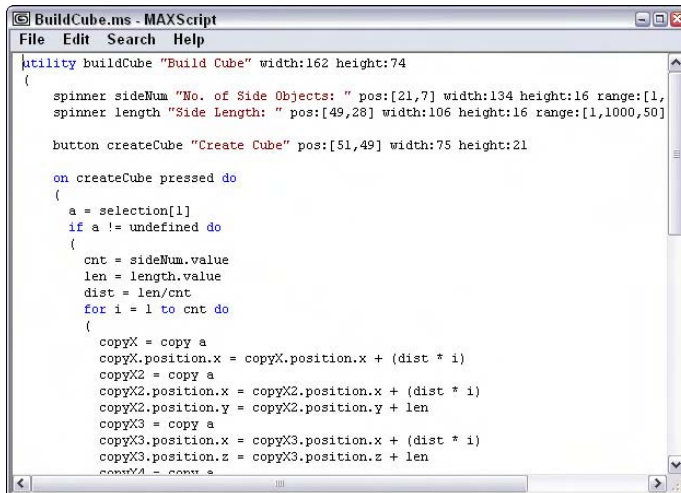

Figure 48-17: The MAXScript editor window is updated with the code from the Visual MAXScript window.
9. Complete the script by entering the script commands immediately after the open parenthesis that appears on the line following the `on createCube pressed do` event, as shown in Figure 48-17. If you don't have any original code that you want to enter, you can copy and paste the code from the `BuildCube.ms` file from the Chap 48 directory on the CD-ROM.